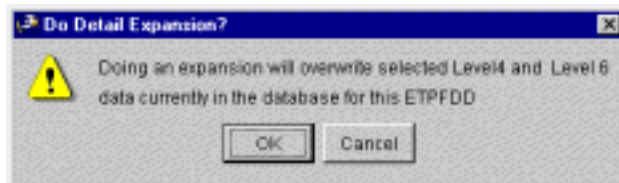

Figure 5.195 Do Detail Expansion? Window
- To expand all level 3 records to level 4 by retrieving information from the TUCHA database for the selected RLNs, click Apply to Marked RLNs. The Level4 from TUCHA window closes, and the Do Detail Expansion? window opens (Figure 5.195). Click OK to continue the operation. All level 3 records are expanded to level 4 for the selected RLNs, and the Do Detail Expansion? window closes.